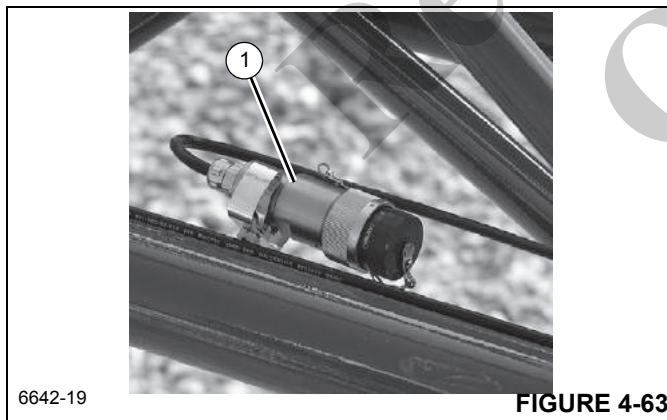

FIGURE 4-63
- Remove RCL cable end connector (1) Figure 4-63 from extension and route through boom extension.